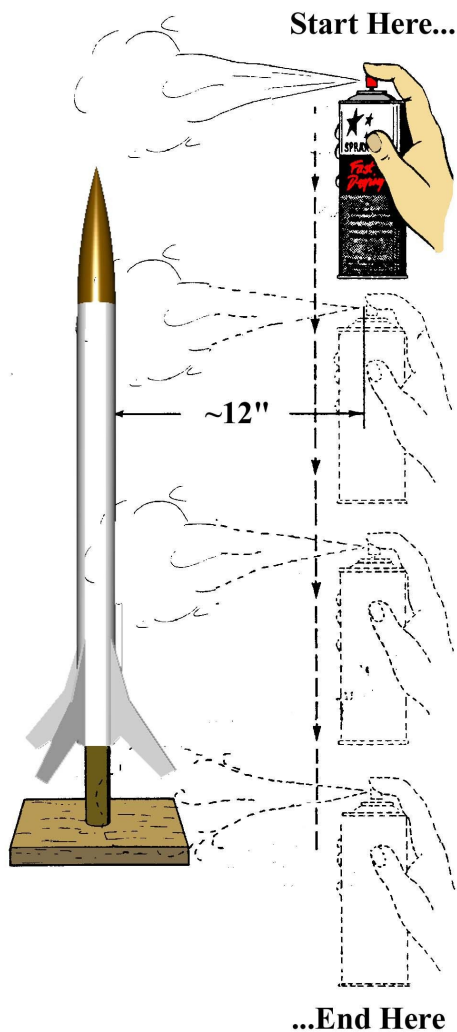

Figure 10
- **Step 16** The illustration in Fig. 10 shows the correct method for spraying your model, regardless of the equipment used. Keep the tip about 12" away from the model, and use a top-to-bottom spray pattern – **never** spray from side-to-side, or from bottom-to-top – to avoid runs in the spray. Use this technique for applying primer, paint, or the gloss coats.